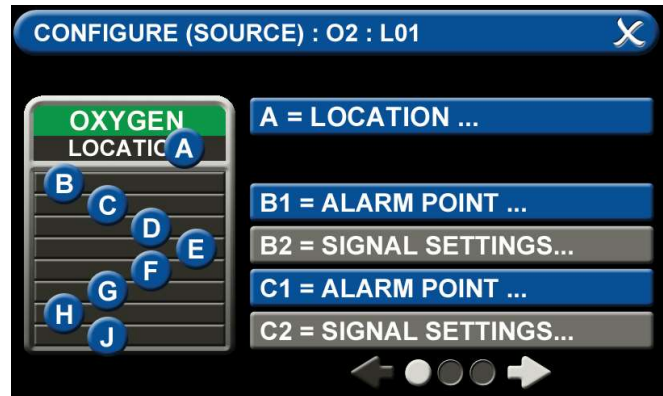

Figure 88: Configure Source Badges
3. Touch the 01 button to go the CONFIGURE (SOURCE) screen to configure the first location (Figure 88).
Each source badge has room for eight source signal inputs (B-J) (Figure 88). Two tabs are used for the detailed configuration of each source signal input. The two tabs for each source signal input are paired and named alphabetically (e.g., B1 and B2 / C1 and C2 / D1 and D2 / etc.).